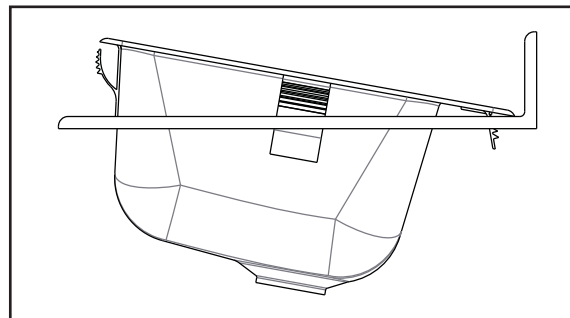

FIGURE 1. Place the sink in the hole at an angle.
- + Place the sink in the hole at an angle. (Fig 1)